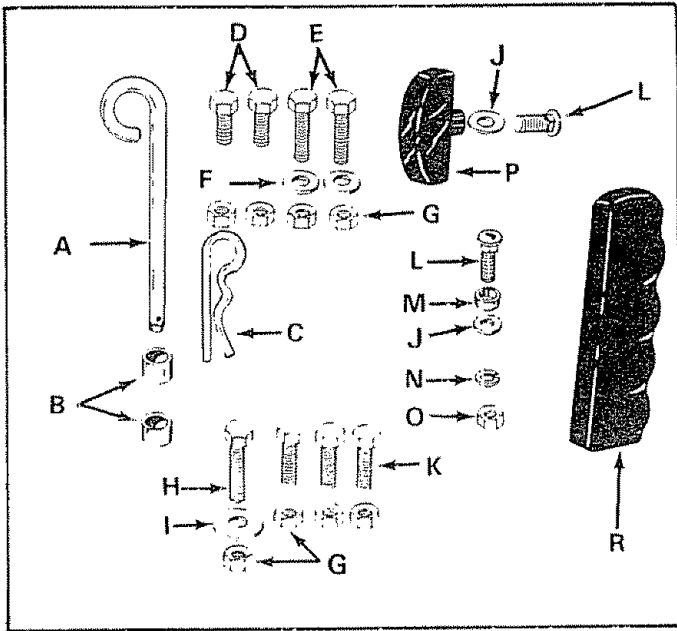

FIGURE 1
Your lawnsweeper carton and inner pack parts carton contains parts as shown in the figure below. The hardware package contains two separate packages, see figures 1 and 2 on page 3. Identify all parts and layout as shown in the figure below and figures 1 and 2.
**CONTENTS OF HARDWARE PACKAGE: (Figure 1).**
- A (1) Hitch Pin
- B (2) Spacers 1" Dia. x 3/4" Long
- C (1) Hairpin Cotter
- D (2) Hex Bolts 3/8"-16 x 3/4" Long
- E (2) Hex Bolts 3/8-16 x 1-1/4" Long
- F (2) Flat Washers 3/8" I.D.
- G (8) Hex Lock Nuts 3/8-16 Thread
- H (1) Hex Bolts 3/8-16 x 1-1/2" Long
- I (1) Flat Washer 17/32" x 1-1/2 x 10 Ga.
Refer to carton contents figure on page 2 and figure 1 on page 3 for parts and hardware needed to assemble sweeper housing.